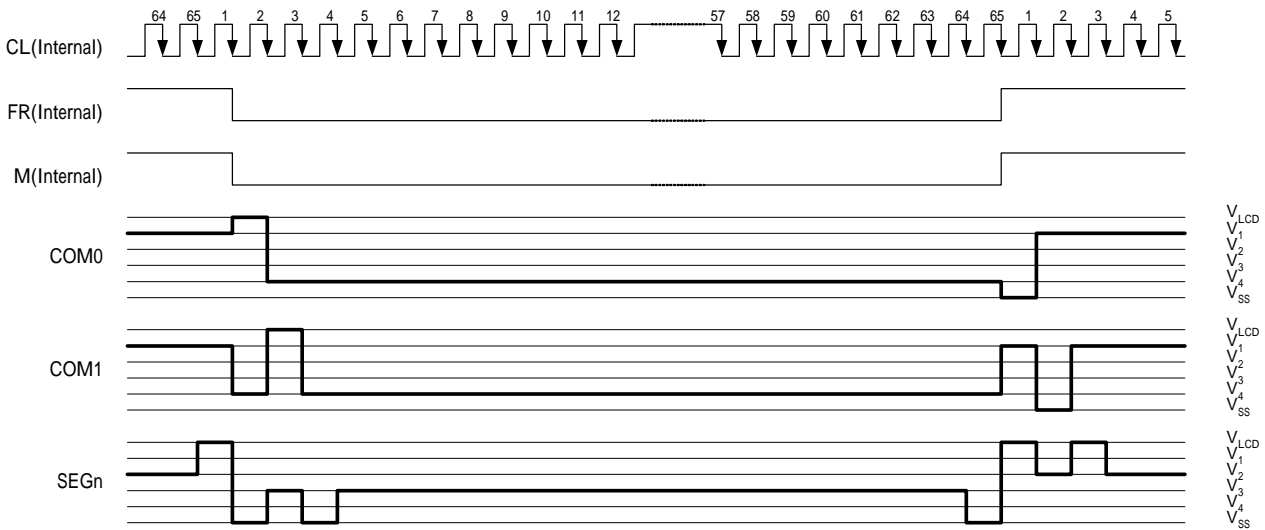

Fig 8. 2-frame AC Driving Waveform (Duty Ratio: 1/65)
This circuit generates some signals to be used for displaying LCD. The display clock, CL (internal), generated by oscillation clock, generates the clock for the line counter and the signal for the display data latch. The line address of on-chip RAM is generated in synchronization with the display clock and the display data latch circuit latches the 102-bit display data in synchronization with the display clock. The display data, which is read to the LCD driver, is completely independent of the access to the display data RAM from the microprocessor. The display clock generates an LCD AC signal (M) which enables the LCD driver to make a AC drive waveform, and also generates an internal common timing signal and start signal to the common driver. Driving waveform and internal timing signal are shown in Figure 8.